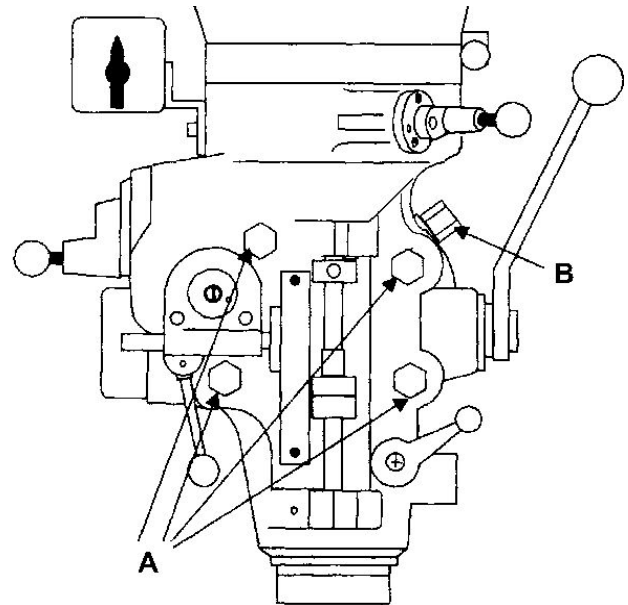

Figure 20
- Loosen four large hex nuts that secure the mill head to the ram adapter (refer to Figure 20).
- Turn the worm nut (B, Figure 20) to tilt the head left or right as required. Use the scale on the ram adapter to set the desired angle.